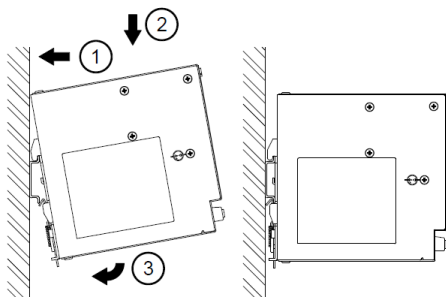

Fig. 6.1 Mounting
1. Tilt the unit upwards and insert it onto the DIN rail. Snap on the DIN rail as shown in Fig. 6.1.